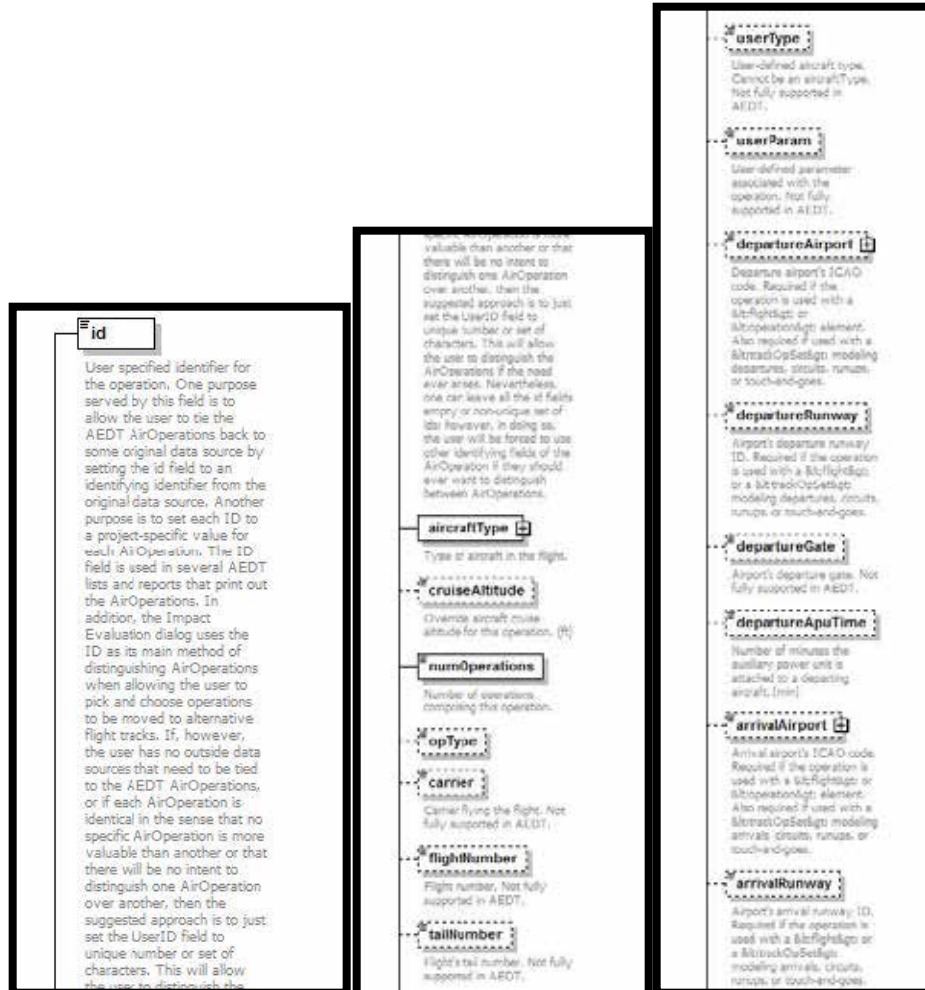
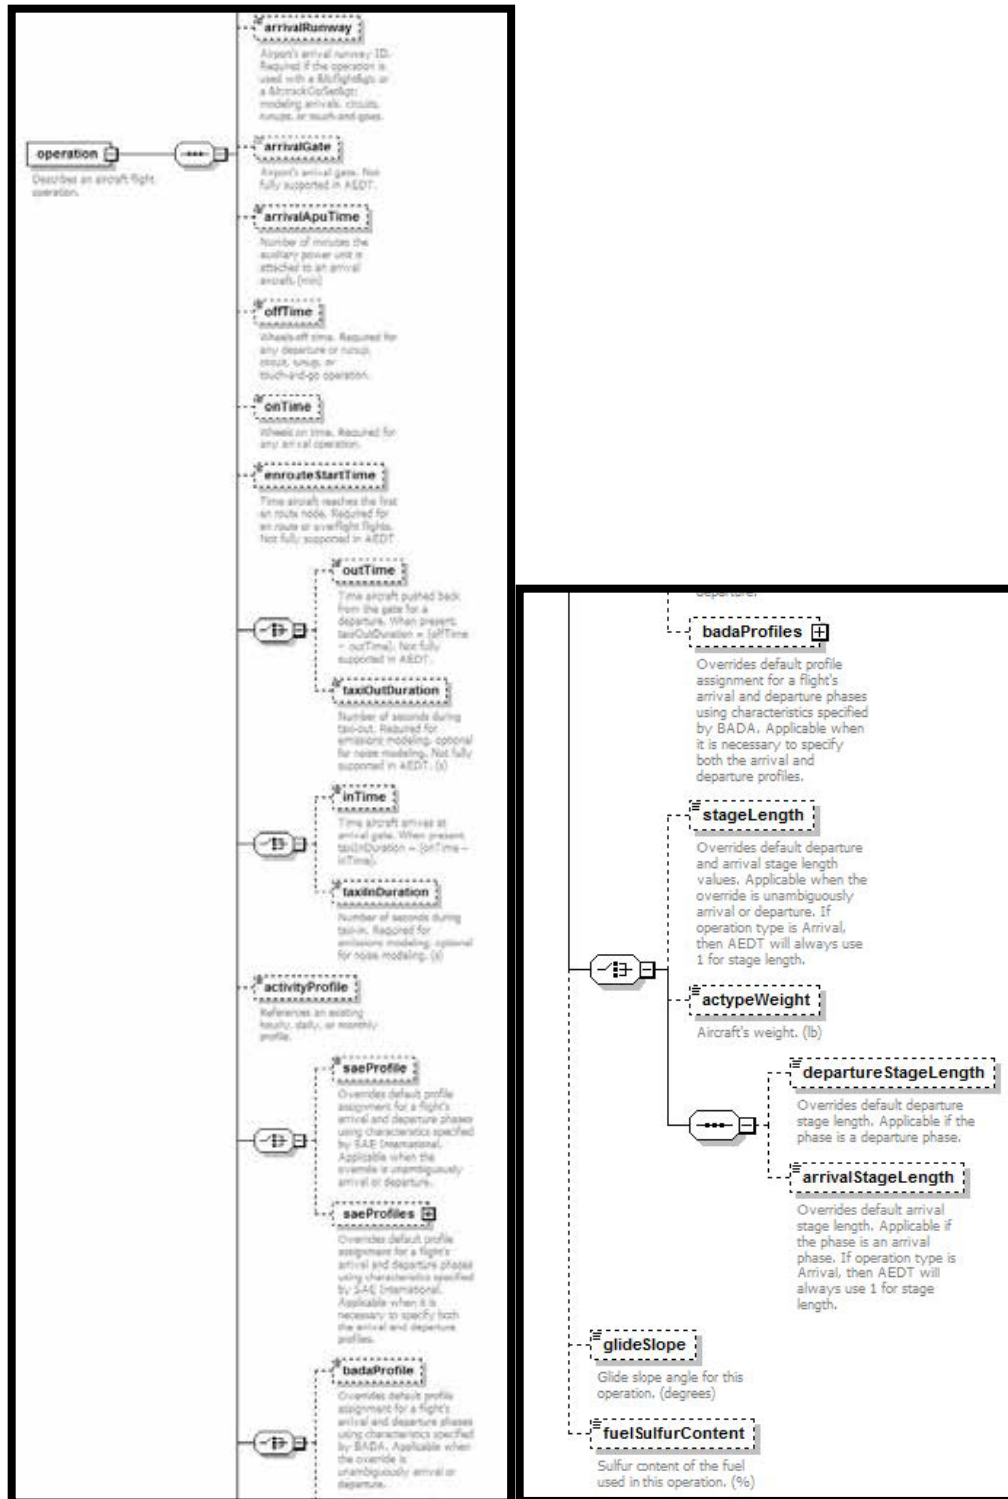

Figure 55. element operation. 1 -> 2 -> 3
Figure 56. element operation. 4 -> 5
13. **AsifXml/study/scenario/case /operation** (Figure 55 and Figure 56):